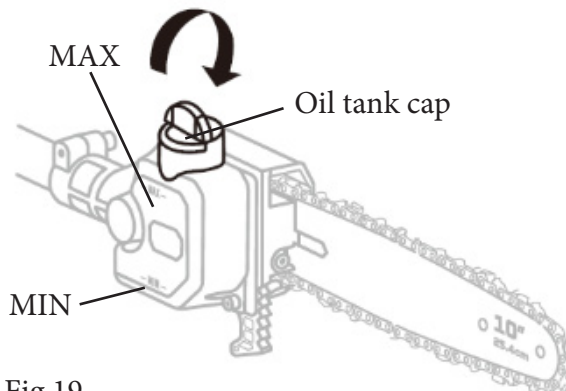

Fig.19
- Fill the oil tank with chain oil. The oil level should be above “MIN” limit and below the “MAX” limit. (Fig.19)